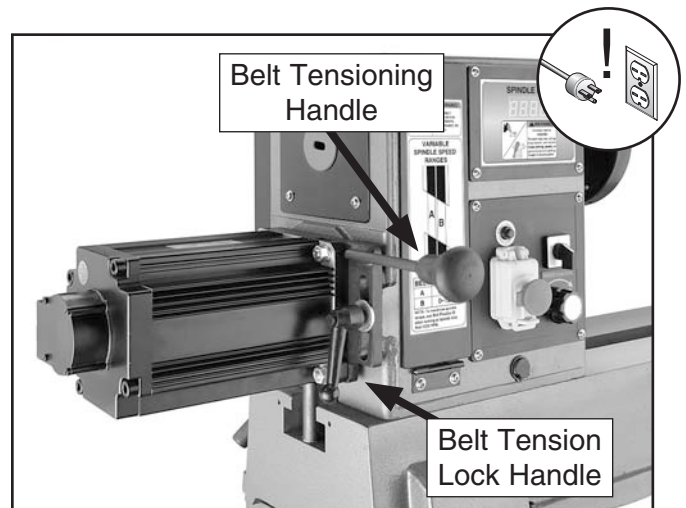

Figure 30. Motor tensioning handle and tension lock handle.
3. Loosen the belt tension lock handle (**Figure 30**).